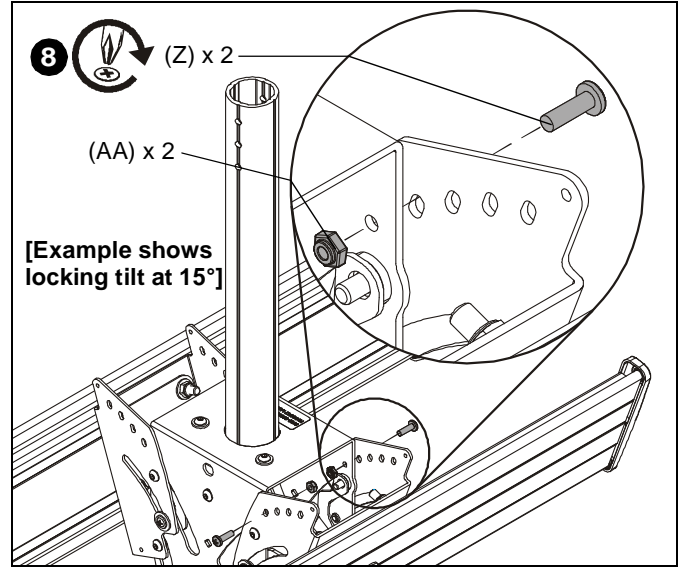

Figure 11
8. If using the tilt settings of 0°, 5°, 10° or 15°, insert two 10-24 x 1/2" Phillips head screws (Z) and two 10-24 lock nuts (AA) to lock mount at the specific tilt. (See Figure 11)